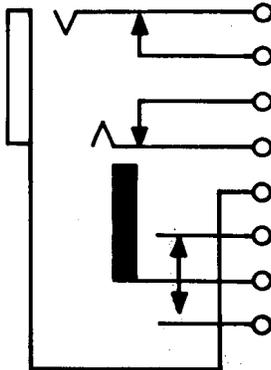

Fig. 8—362 Jack
2.08 362: This strip-mounted jack (Fig. 8) is used with 310 or similar-type plugs. This jack is also used with the 109, 110, 116, 131, 136, 137, 250A or similar-type jack mountings.